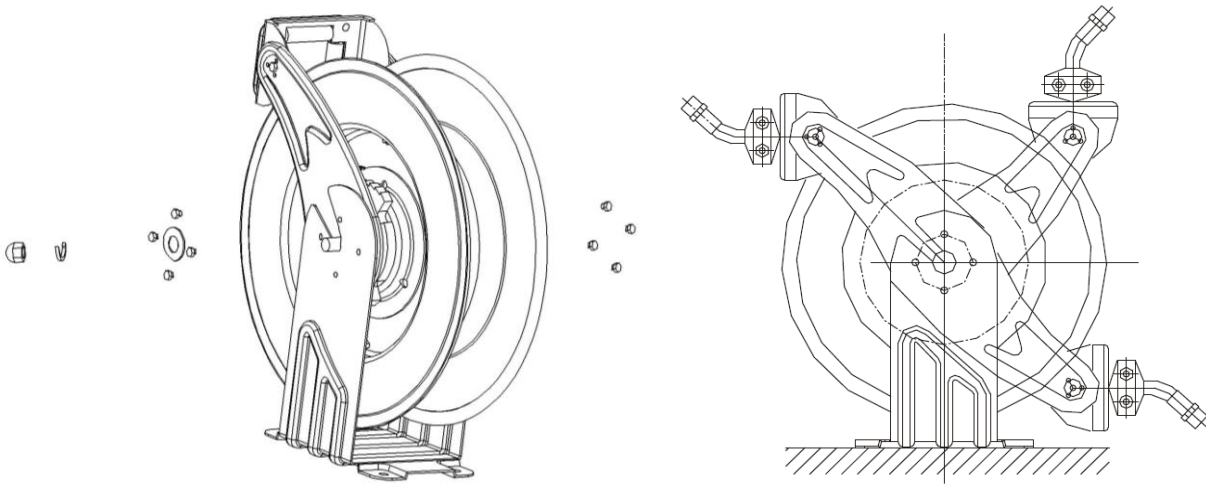

Fig. 3
- ①. Pull out hose until the latch pawl is engaged.
- ②. Remove stopper (part# 46 of hose reel) by removing the slotted screws.
- ③. Disengage the latch pawl while maintaining a firm hold on spool. Turn the spool hand over hand approximately two or three circles in the direction of the drive spring until tension is removed.
- ④. Remove the nuts and washers holding the guide arm and shift to base.
- ⑤. Rotate the guide arm and adjust it to any of the three positions hinted. See Fig. 3.